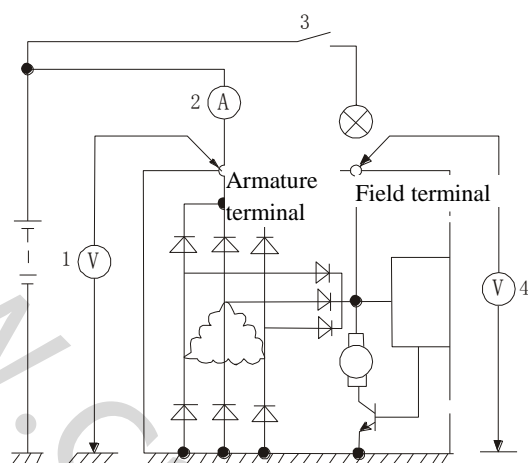

Fig.12-21 Fault Check of Generator and Charging Circuit
3) When the engine runs at intermediate speed, check the output current and end voltage of generator, as shown in Fig.12-21. If the voltage can reach 13.8V to 14.5V after increasing the rotating speed of engine, and the ammeter indicates a higher charging current, it shows that the generator and regulator is normal. If the rapid current deficiency of battery may be caused by the fault of battery itself or current leakage of car's electric equipment and circuit, check it; if the voltage can reach 13.8V to 14.5V quickly, but no charging current exists or it's very little, check whether the wiring connection between the generator armature terminal and battery is poor. If no, it may be caused by serious vulcanizing of battery plate.